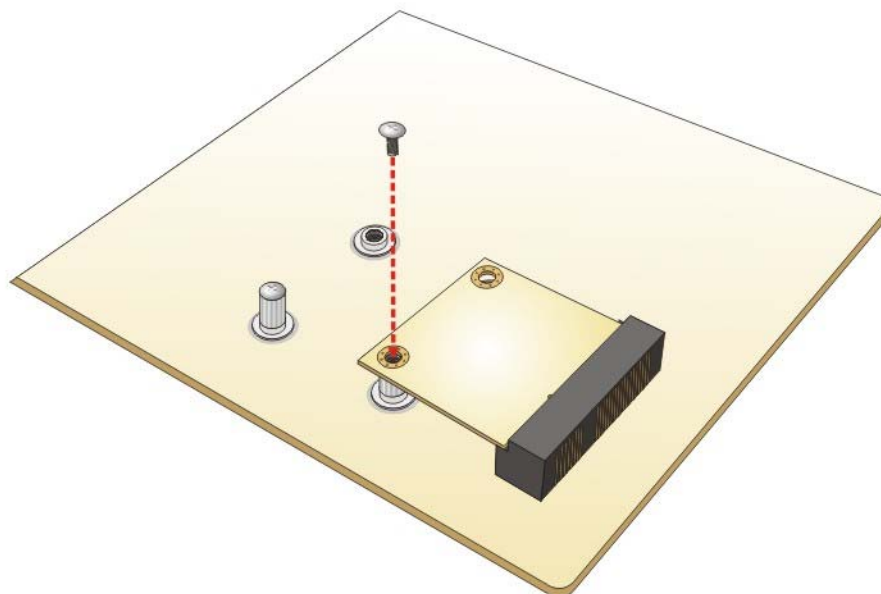

Figure 4-9: Securing the Half-size PCIe Mini Card
Step 6: **Secure the half-size PCIe Mini card.** Secure the half-size PCIe Mini card with the retention screw previously removed (**Figure 4-9**).